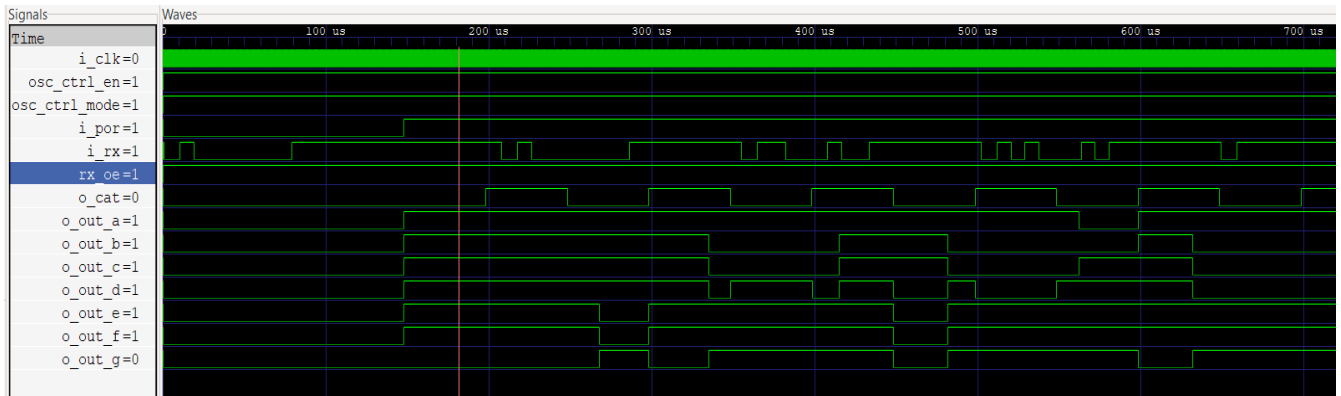

Figure 10: PmodSSD Results
13. The user can then send the desired data from the UART Terminal to the PmodSSD in Hexadecimal form. The user needs to set the Baud Rate as 115200 and set the Parity Bit to “None Parity”. The user can type the desired data (HEX) they want to send to the Pmod in the UART Terminal (See Figure 9) and then click Send to see it appear on the PmodSSD. (See Figure 10)